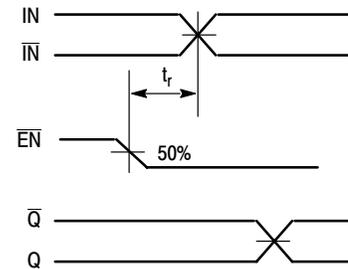

Figure 5. Release Time
21. The release time is the minimum time that \overline{EN} must be deasserted prior to the next IN/ \overline{IN} transition to ensure an output response that meets the specified IN to Q propagation delay and output transition times (see Figure 5).